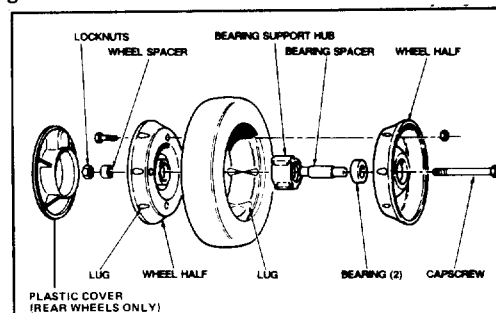

Figure 25
1. Remove capscrew, wheel spacer, and locknut mounting wheel to pivot arm (Fig. 25).
2. Separate wheel halves from tire by removing (4) capscrews and locknuts (Fig. 25).
1. Position tire onto (1) wheel half aligning lugs on each (Fig. 25).
4. Using (2) 1/4-20 x 1.50" lg. fully threaded screws or bolts and non-locking nuts, loosely secure wheel halves together. Mount screws or bolts in opposing holes.